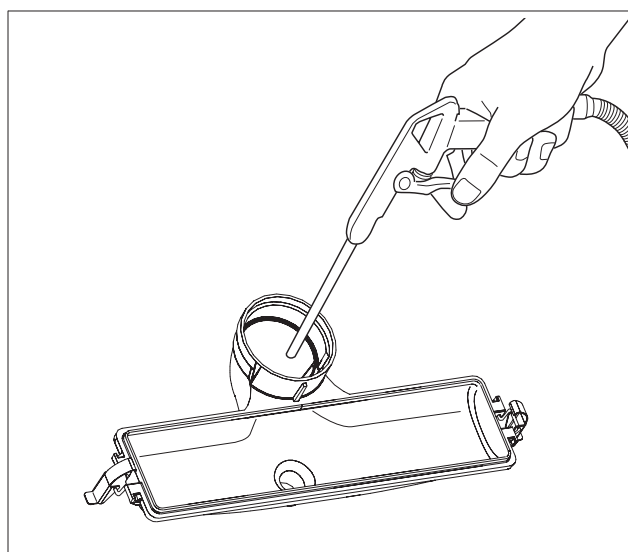

fig. 131 Cleaning the condensate collector
- Clean the condensate collector mechanically (using compressed air or a soft brush) and rinse it with clean water (fig. 131).